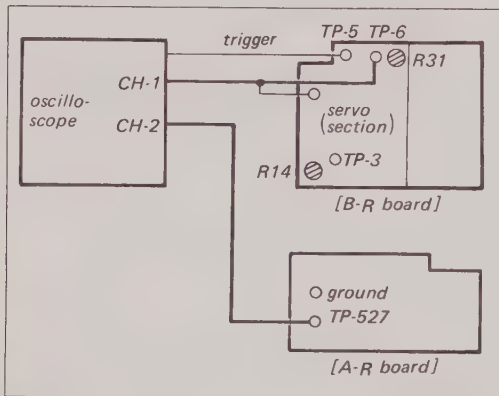

Fig. 7-10. Video head switching position adjustment test setup
1. Connect the CH-2 probe of the scope to TP-527 (video output) of the A-R board. See Fig. 7-10. (Set CH-2 sensitivity to 0.5 V/cm.)
2. Connect the CH-1 probe to TP-6 of the B-R (Servo) board (See Fig. 7-10). Set sensitivity to 2 V/cm. Sync on CH-1 only, time base at 100 μ sec.